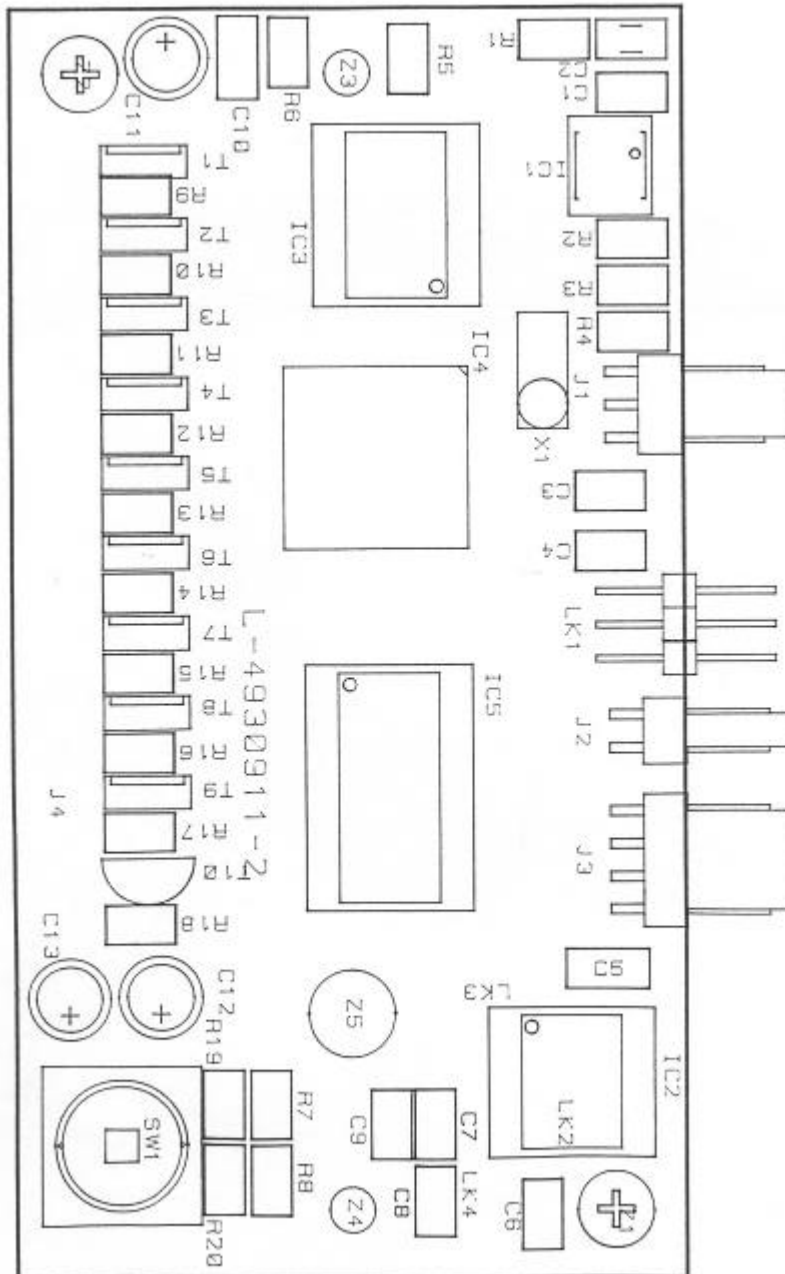

Figure 2: Ap24XS Connections and Option Links
Please refer to figure 2 for connector layout
6.3 SERIAL BAUD RATE AND DATA INVERSION OPTIONS LK1 See fig. 2
The baud rate and default data inversion options are selected by fitting jumper links to the pins of LK1 in the positions A, B and C shown in fig.2.
6.4 PAPER TAKE-UP DEVICE J2 Fig. 2